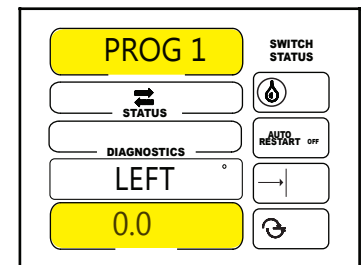

Figure 55-2
2. Set left angle of sector and the direction of travel. See figure 55-2.